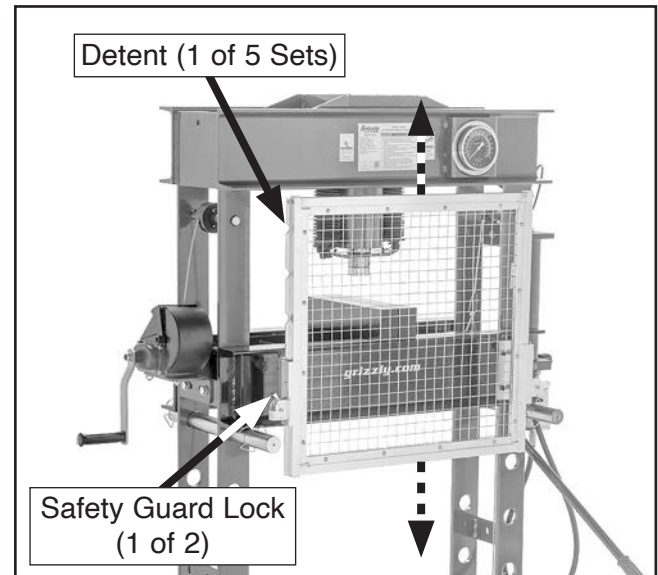

Figure 22. Location of safety guard lock and frame components.
2. Raise or lower safety guard as desired until detent on safety guard frame is positioned next to safety guard lock (see **Figure 22**).